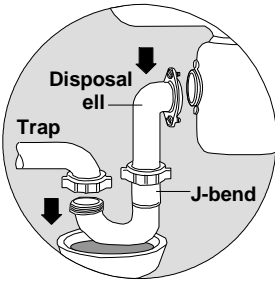

FIG. 1
1. Remove disposal ell and J-bend from disposal and trap. Use bowl to catch trap water. (See Fig. 1)